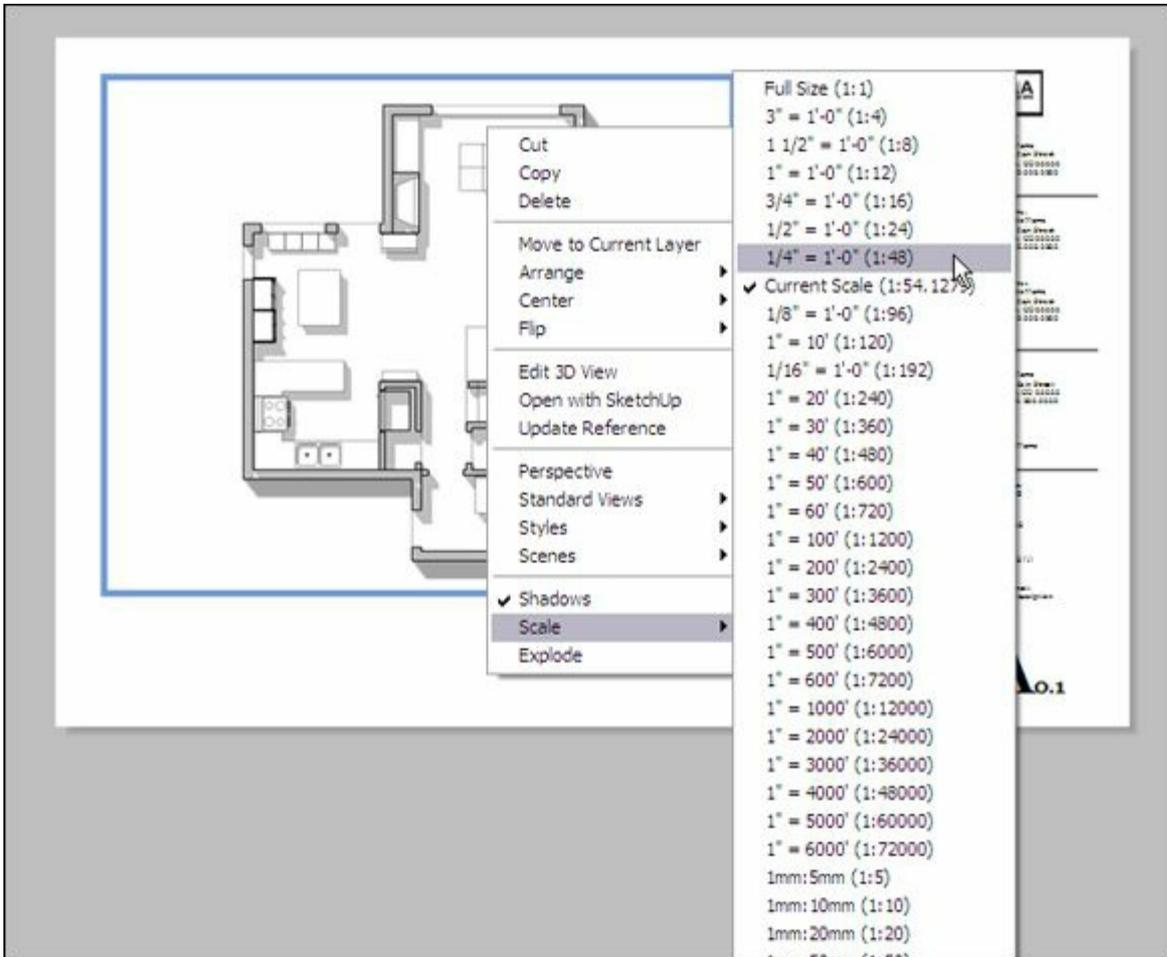

FIGURE 14-8: Assign a precise drawing scale to any orthographic viewport.
- » **Assign a scale using the Scale drop-down list in the SketchUp Model panel.** Don't forget to select the viewport you're working on first. Alternately, with the Select tool, context-click your viewport, choose Scale, and then choose one from the list that appears, as shown in Figure 14-8.